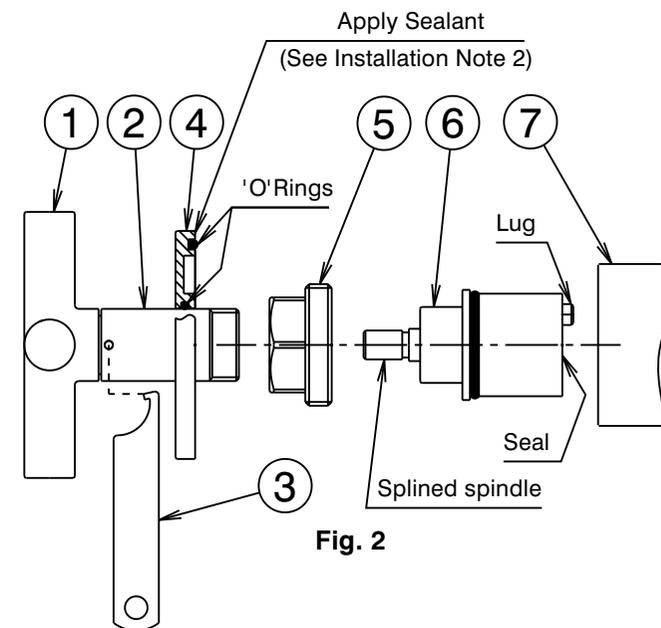

Fig. 2
- * Mixer body (7) must be installed square to wall/tile face, to ensure cover plate (4) sits flush.
- 2) **Trim kit:** Rotate the cartridge (6) spindle anti-clockwise to the stop position. Slide the cover plate (4) together with fitted 'O' Rings over sleeve (2) as shown (Fig.2). Apply a suitable clear sealant to the back face of the cover plate (4), leaving an unsealed section at the bottom for drainage. **Note:** Check H & C markings on plate to determine bottom position. Align the arms of the cross handle (1) horizontally, then fit onto spline of cartridge (6) spindle. Engage the handle (1) assembly with the spline of the cartridge spindle then screw the chrome sleeve (2) into the thread of nut (5) using the spanner (3) provided & tighten.
Replacing Cartridge (Fig. 2)